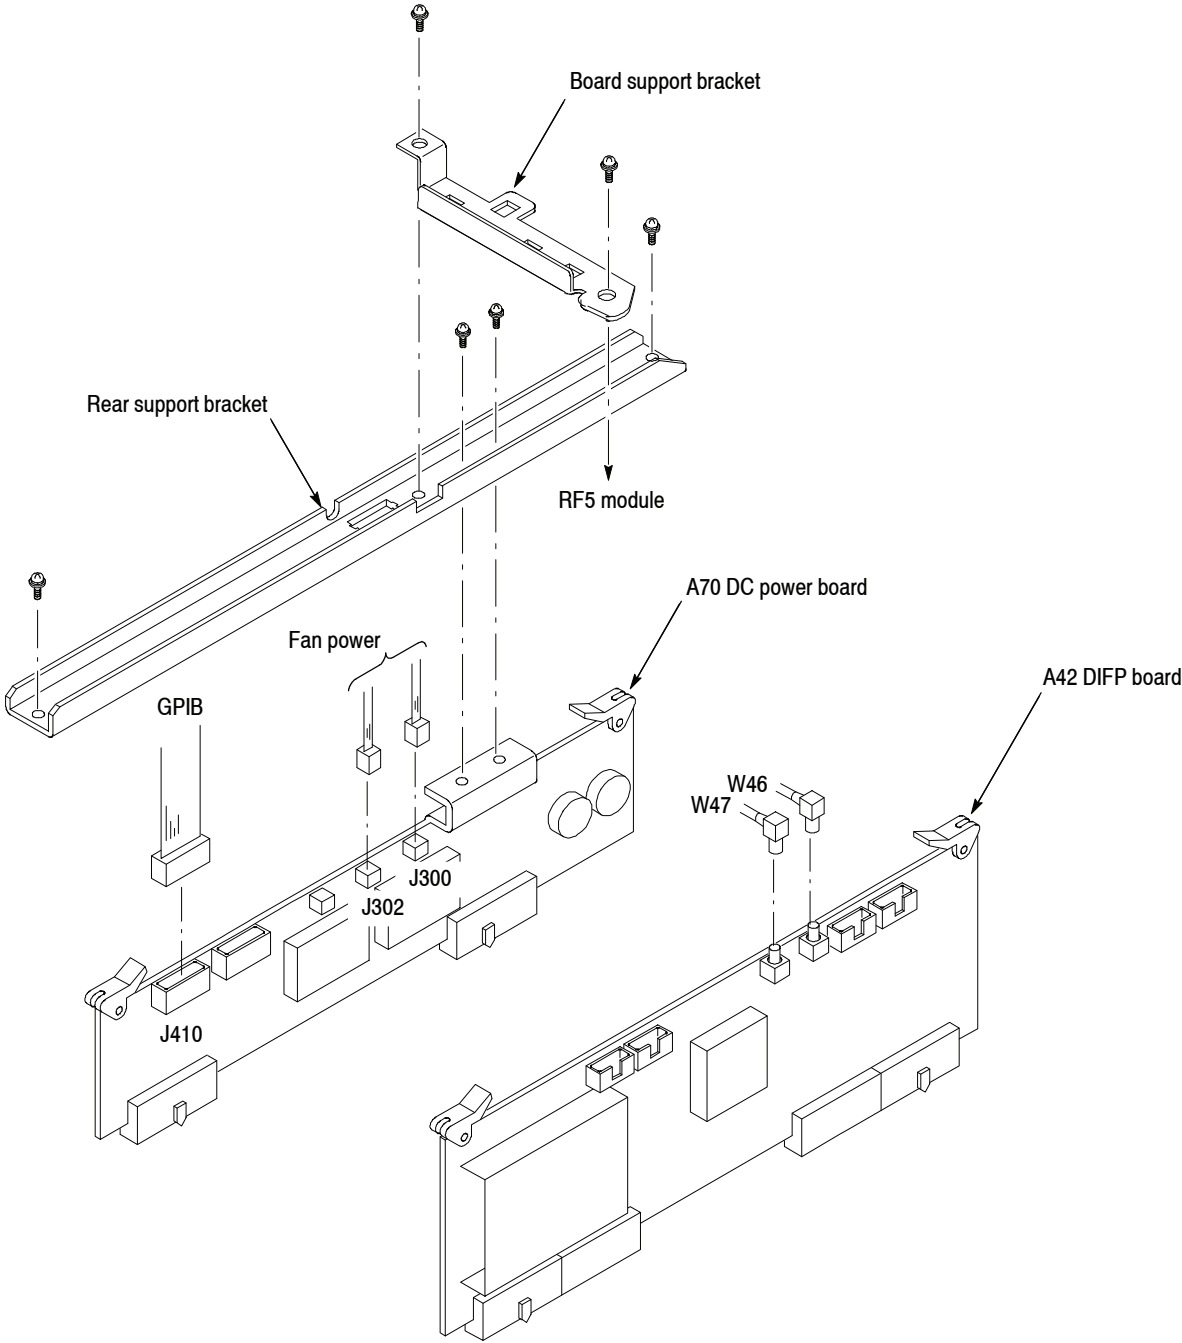

Figure 5-19: Daughter boards removal
3. *Remove the board support bracket:* See Figure 5-19 on page 5-39. Remove the two screws securing the board support bracket to the rear support bracket and the RF5 module. Lift the board support bracket away.
3. *Remove the A42 DIFP board:* See Figure 5-19. Also see Figure 5-35 on page 5-73 for the cable interconnection.
3. *Remove the rear support bracket:* See Figure 5-19.
4. *Remove the A70 DC power board:* See Figure 5-19.